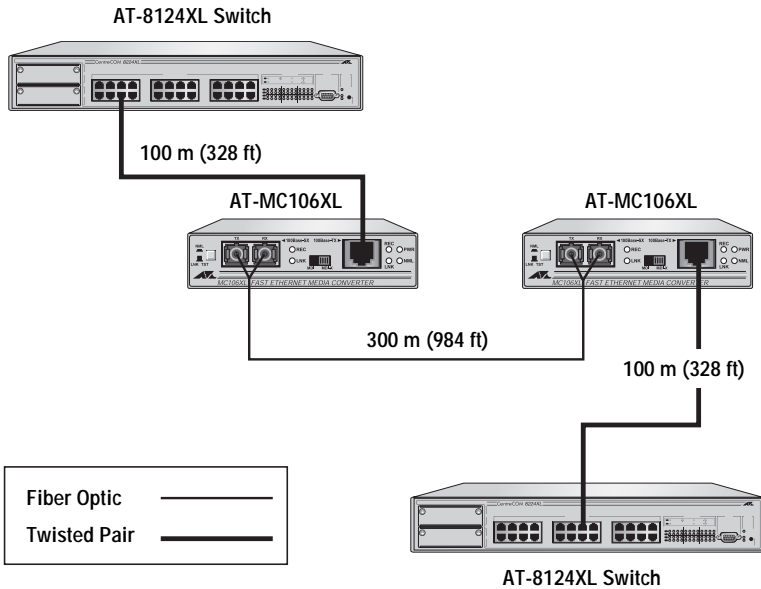

Figure 5 Back-to-Back Topology
In some network configurations you may want to interconnect two media converters in what is referred to as a back-to-back topology. In this topology, the media converters not only extends the distance of your network but also converts the fiber optic cable from twisted pair to fiber optic and back again. Figure 5 illustrates two AT-8124XL switches at different campuses interconnected by two AT-MC106XL media converters. The 100Base-TX ports on the media converters are connected to one 10/100Base-TX port on each switch, while the 100Base-SX ports on the media converters are directly connected together.
2. If you are installing the media converter on a desktop, attach the four protective feet to the bottom of the unit. Refer to Figure 5. **Do not attach the protective feet if you are installing the unit in an AT-MCR12 chassis.**